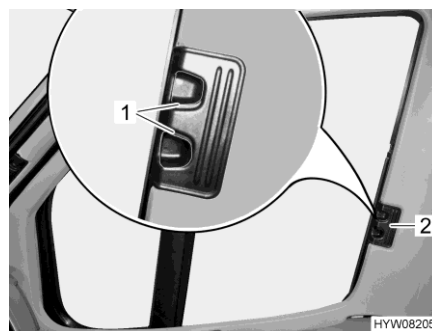

Fig. 19 Roman shade (driver's / front passenger's window)
- Press the release handles (Fig. 19,1) and hold them down.
- Using the handle (Fig. 19,2), draw the Roman shades for the driver's and passenger's window to the other side of the window and secure them to the magnetic strips.
- Use handle (Fig. 19,2) to push in the Roman shades for the driver's and passenger's window as far as possible.
- Let go of the release handles (Fig. 19,1) and let them engage.